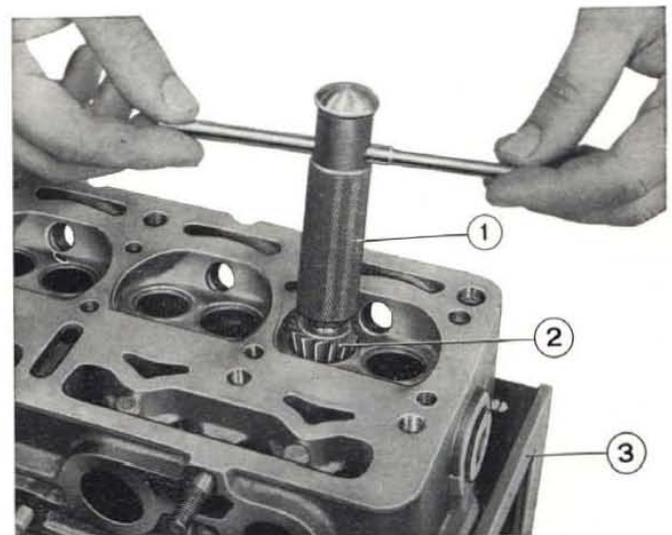

Fig. 94 - Using 75° cutter to narrow valve seats.
- Repeat the procedure above outlined with cutter A. 94030 (75°) (fig. 94).